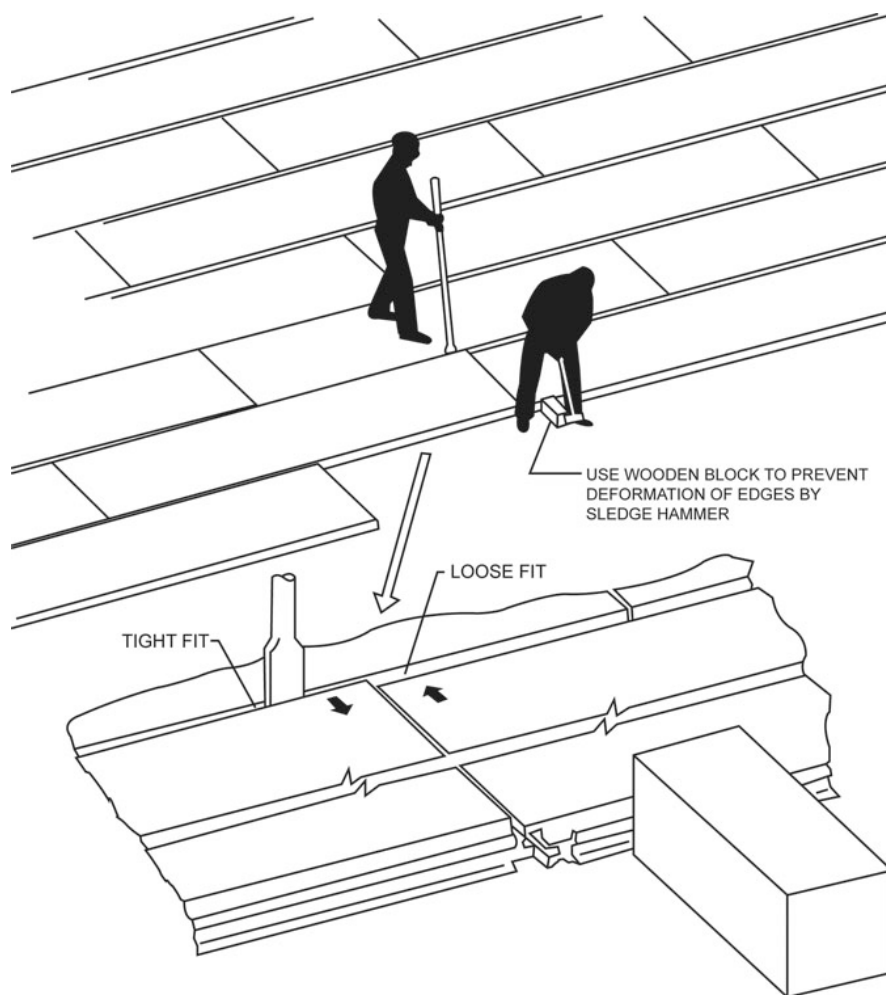

Figure 3-6. Aligning rows.
3. Use a locking bar as a spacer between mats while assembling the patch to keep the rows properly aligned. Leave the locking bar ("T" spacer) in place for at least three rows back from the row presently being installed. Figure 3-6 shows them aligning the mat rows. Placing locking bars where the arrow is pointed helps in keeping the mats properly aligned.